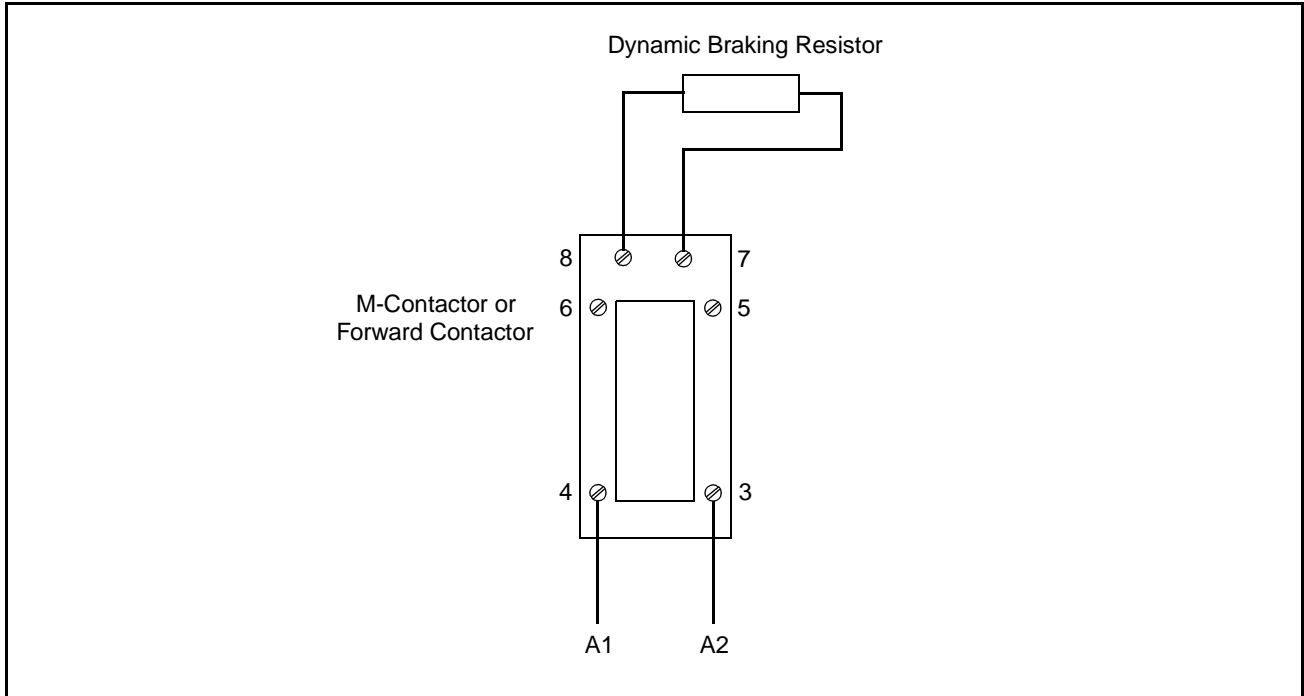

Figure 1 – Dynamic Braking Resistor Connections for Regenerative FlexPak Plus Drives and Non-Regenerative FlexPak Plus Drives Without a Reversing Contactor
- Step 5. **For all regenerative FlexPak Plus DC drives, and for non-regenerative FlexPak Plus DC drives without a Reversing Contactor:** Connect the dynamic braking resistor between the normally closed (NC) contacts of the drive's M-contactor (terminals 7 and 8). This places the resistor across the motor's armature (A1 and A2) when the M-contactor is de-energized. Refer to figures 1 and 2.